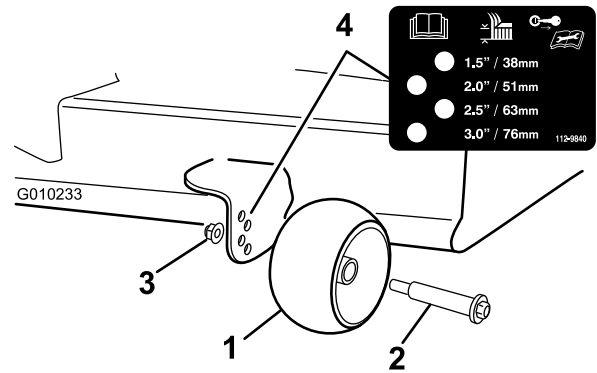

Figure 22
3. Adjust the anti-scalp rollers as shown in Figure 22 to match the closest height-of-cut position.